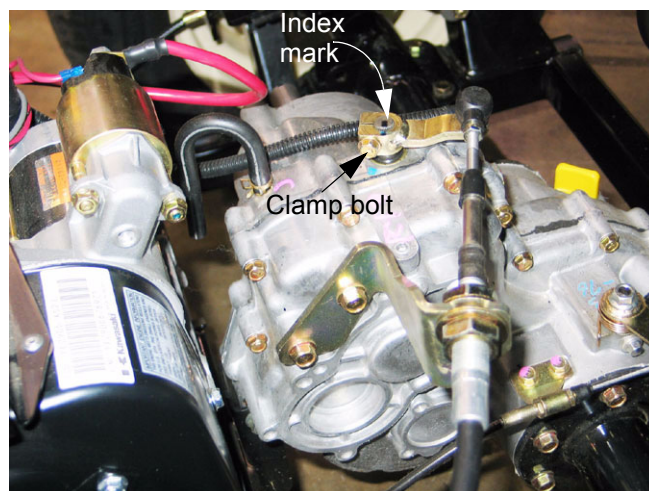

Figure 4.15
- 4.15. The back end of the cable is permanently attached to the shifter arm. See Figure 4.15.